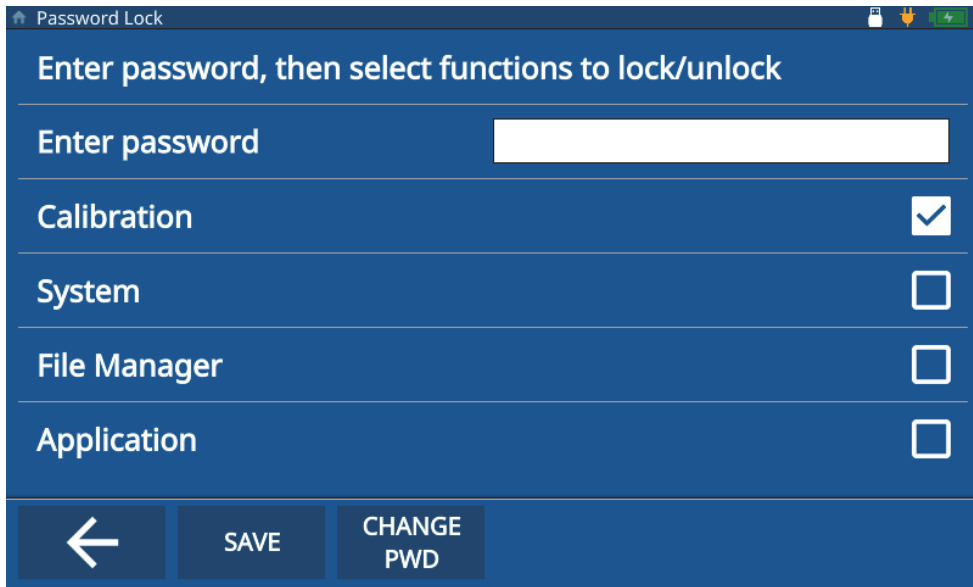

Figure 8-3 Disable Instrument Lock screen
5. Select the functions to unlock by clearing the appropriate check-boxes (see Figure 8-3 on page 74).